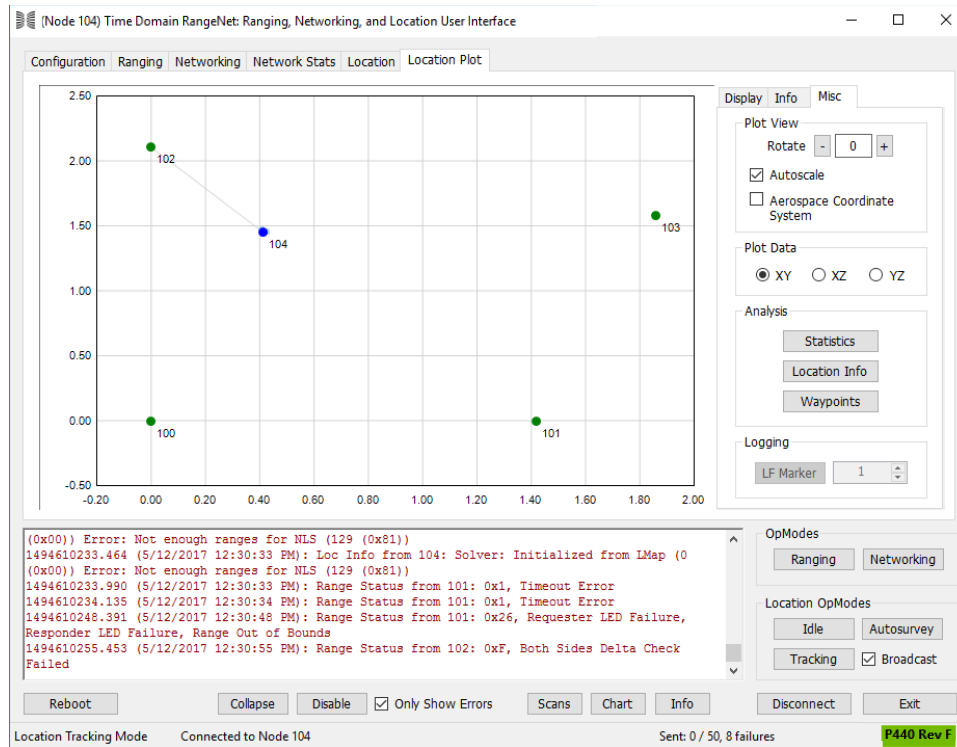

Fig. 26: Monitoring the device locations
- Monitor the system.** Click the Location Plot Tab, the Misc subtab, and then click the Autoscale box. You should see a rapidly updating display similar to the one shown in **Figure 26**.